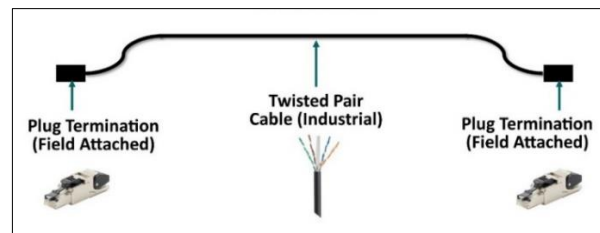

Figure 1. Example of a point to point channel.
1. Point to Point—A point to point channel is a field installation where an installer terminates a field terminable RJ45 plug, (e.g., Panduit[®] IndustrialNet™ Category 6A RJ45 field terminable plug) to both ends of the cable, connecting two devices (Figure 1).